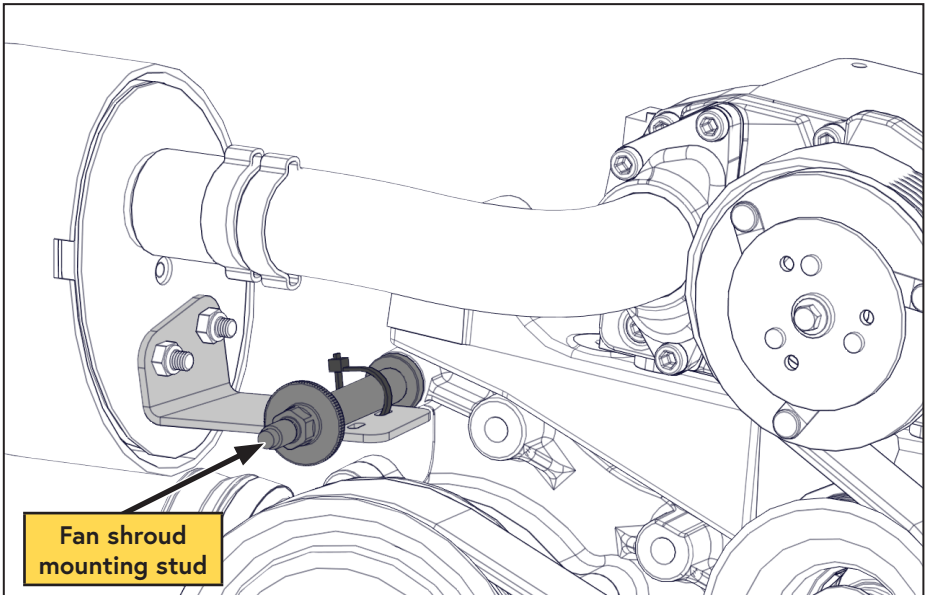

Figure 40 — Securing the filter assembly
- Secure the filter assembly to the fan shroud mounting stud using the supplied cable ties (Figure 40).